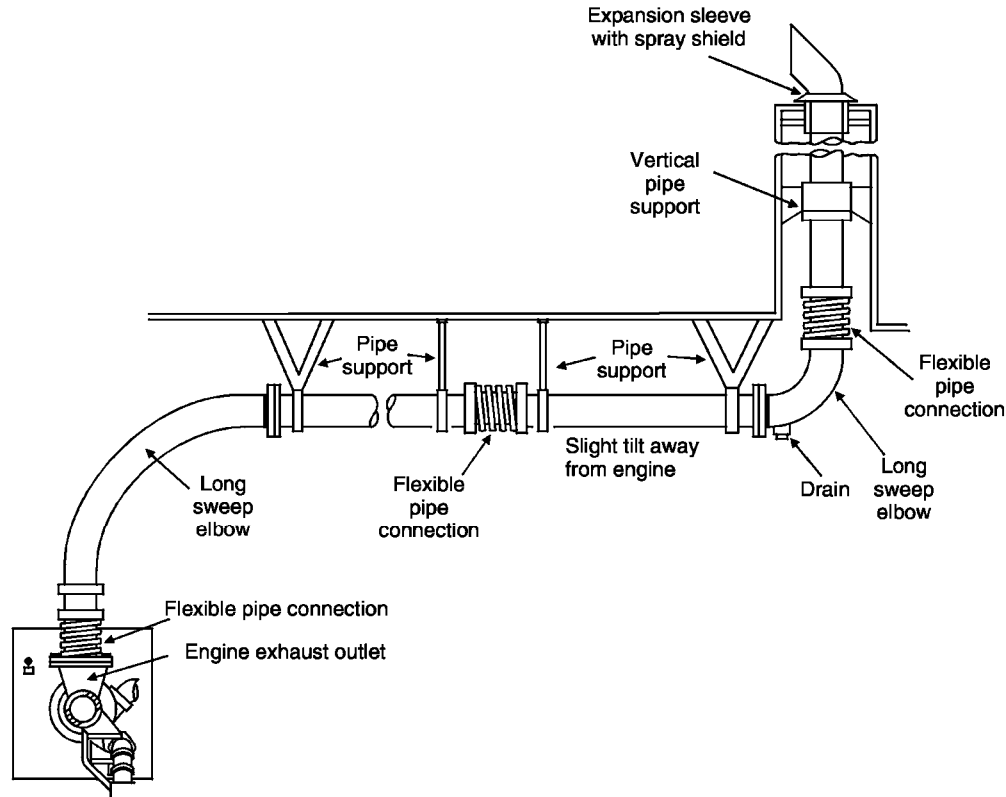
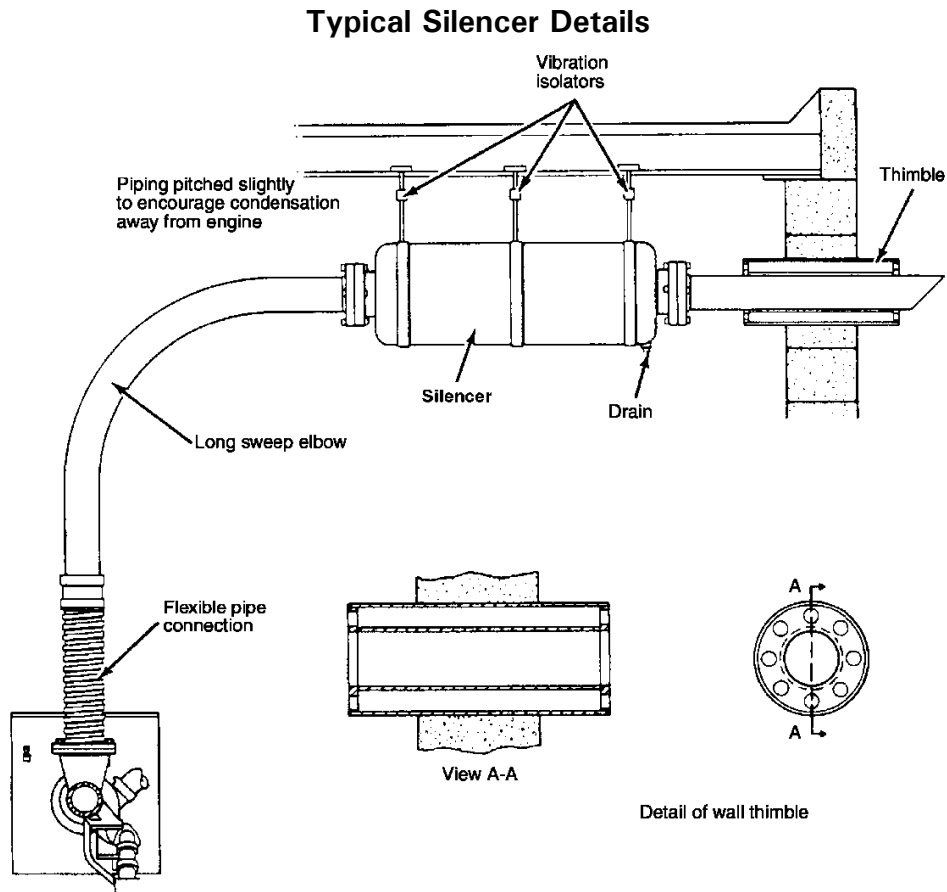
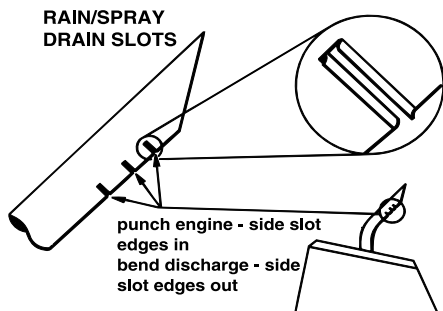

Figure 3
Figure 5
Figure 7
A typical piping layout with flexible connections is shown in **Figure 3**.
- Install metal thimble guards for exhaust piping passing through wooden walls or roofs. The thimble guards should be 305 mm (12 in) greater in diameter than the exhaust pipes, see **Figure 5**.
The exhaust system can accumulate a considerable amount of condensed moisture. For example, gas engines burning natural gas create one pound of water for each 10 ft³ of natural gas burned. For this reason, long runs of exhaust piping require traps to drain moisture. Traps should be installed at the lowest point of the line, near the exhaust outlet, to prevent rain water from reaching the engine. Exhaust lines should be sloped away from engine, toward the trap, so condensation will properly drain, see **Figure 3** in the previous section.
Exhaust thimbles, as illustrated in **Figure 5**, are fabrications used for wall or ceiling penetrations. The thimble provides a separation of the exhaust pipe from walls or ceilings,
One simple method, used primarily with horizontal exhaust pipes, is to angle cut the end of the pipe as shown in **Figure 3**, **Figure 5** and **Figure 7**.